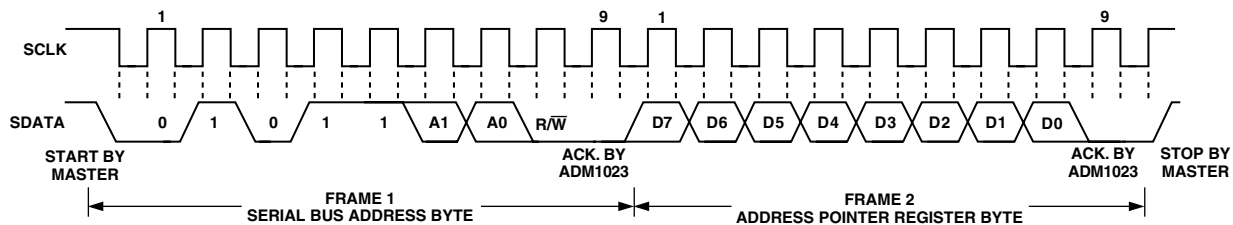

Figure 15. Writing to the Address Pointer Register Only
as before, but only the data byte containing the register read address is sent, as data is not to be written to the register. This is shown in Figure 15.
A read operation is then performed consisting of the serial bus address, R/W bit set to 1, followed by the data byte read from the data register. This is shown in Figure 15.
2. If the Address Pointer Register is known to be already at the desired address, data can be read from the corresponding data register without first writing to the Address Pointer Register, so Figure 15 can be omitted.